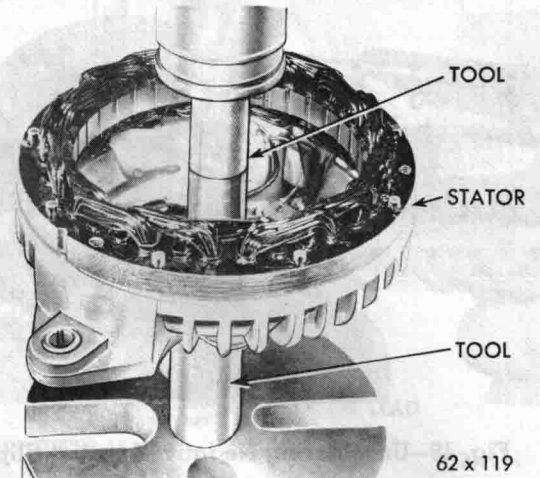

Fig. 46—Removing Rectifier End Shield Bearing
(10) The needle roller bearing in the rectifier end shield is a press fit. If it is necessary to replace the needle bearing, support the shield with Tool SP-3383 when pressing the bearing out with Tool C-3770 (Fig. 46).